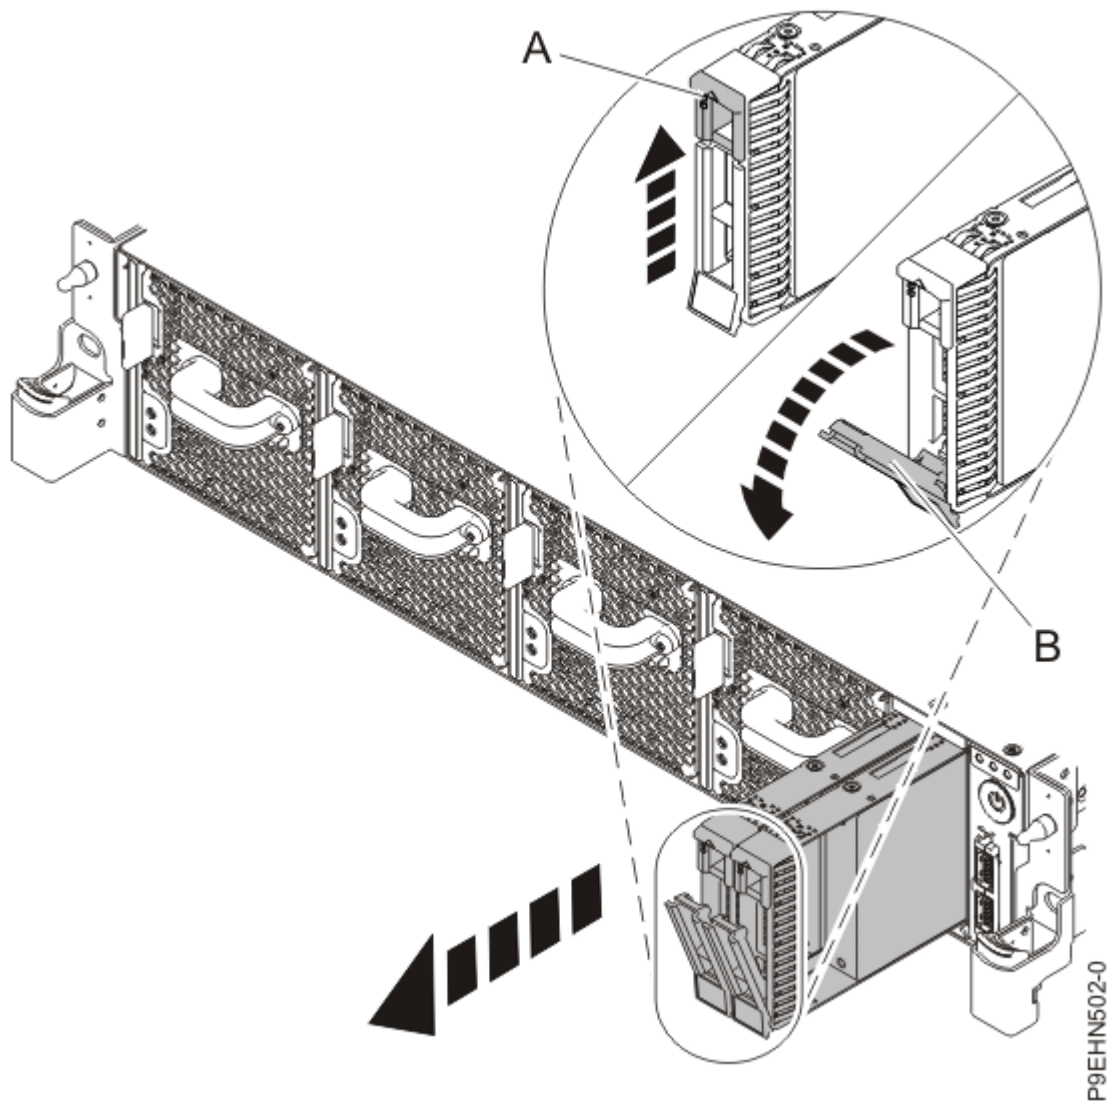

Figure 63. Disk drive lock detail
4. Unlock the drive bay handle **(B)** by pushing the handle release **(A)** up. The handle **(B)** snaps out towards you. If the handle does not snap out all the way, the drive does not slide out of the system. See Figure 63 on page 66.